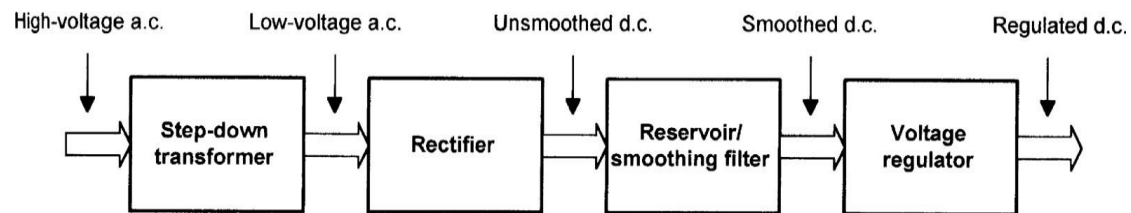

Fig 1: Block diagram of a d.c. power supply
1. The block diagram of a d.c. power supply is shown in Fig. 1.